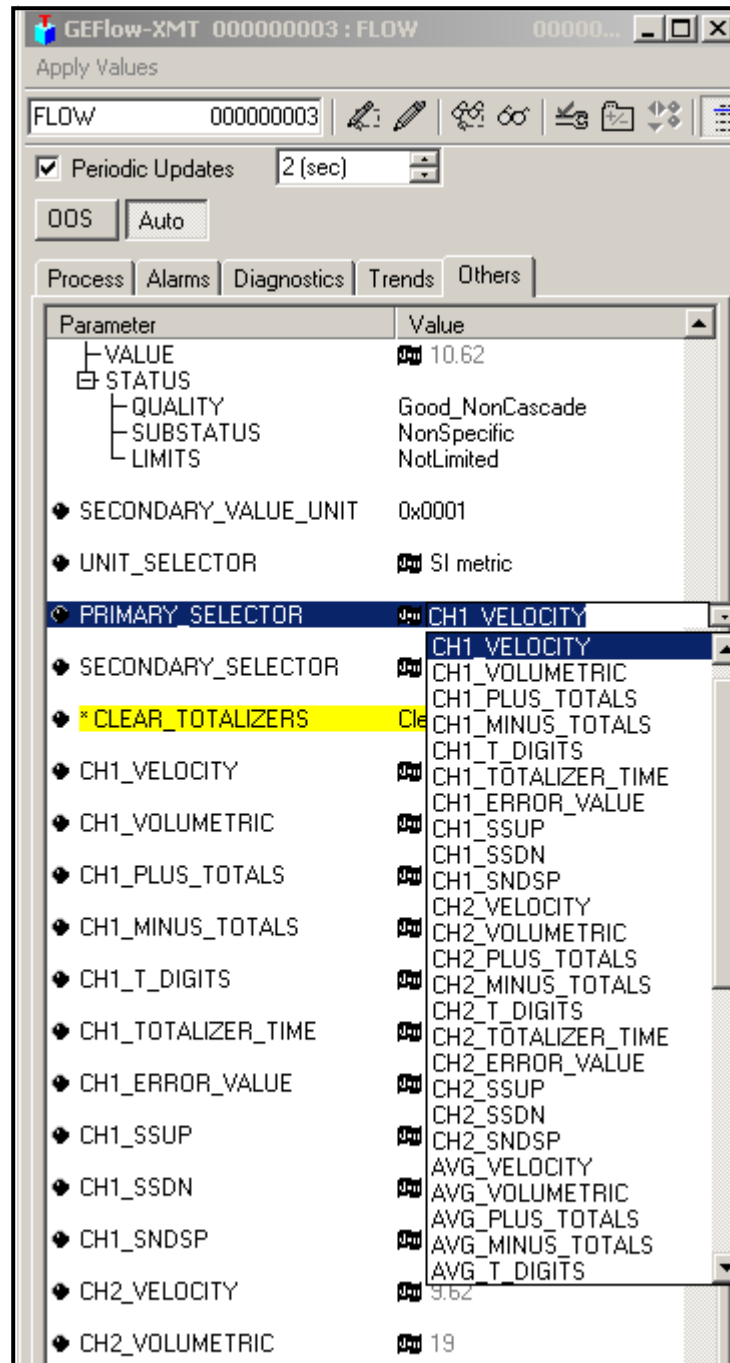

Figure 41: Primary Selector Drop Down List
2. Select the **Others** tab and open the drop down list for the **PRIMARY_SELECTOR** and **SECONDARY_SELECTOR** (refer to Figure 41 on page 113).
3. Choose the unit from the list (see Figure 41 on page 113).